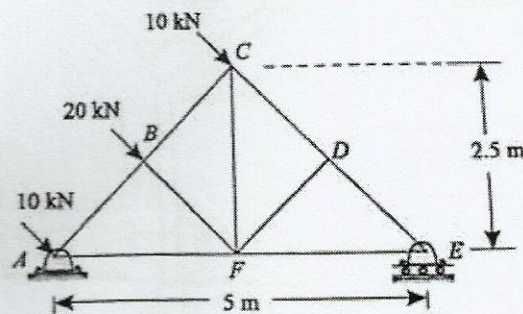

Figure Q4 (a)
4. a) Find the forces in all the members of the truss loaded as shown in Figure Q4 (a) (10)